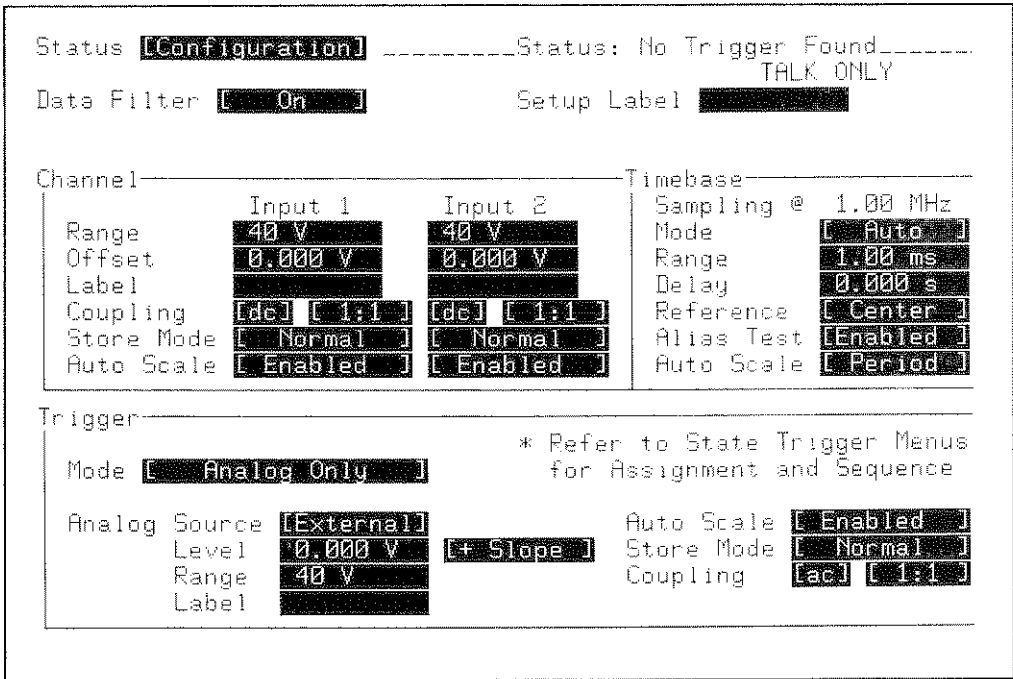

Figure 10-6. 54200A/D Configuration
3. In SYSTEM Calibration menu, select and execute DEFAULT GAIN (7); when DEFAULT GAIN has finished, execute DEFAULT OFFSET (8).
4. Configure the STATUS Configuration menu as shown in figure 10-6.